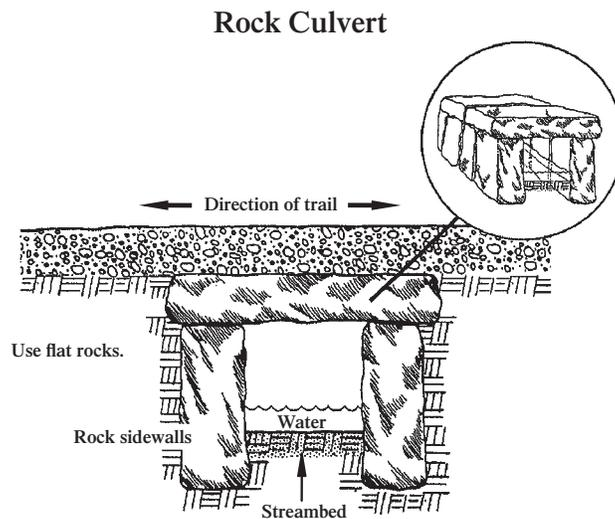

Figure 60—Rock culverts may have stones laid along the culvert’s bottom. The perfect rocks shown here are seldom found in nature.
**Rock culverts** offer workers a chance to display some real trail building skills (figure 60). Begin by laying large, flat stones in a deep trench to form the bottom of the culvert. In some installations, these rocks may not be necessary. Then install large, well-matched stones along either side of the trench. Finally, span the side rocks with large, flat rocks placed tightly together so they can withstand the expected trail use. Cover the top rocks with tread material to hide and protect the culvert. These culverts need to be large enough to clean out easily. The rocks should not wiggle.